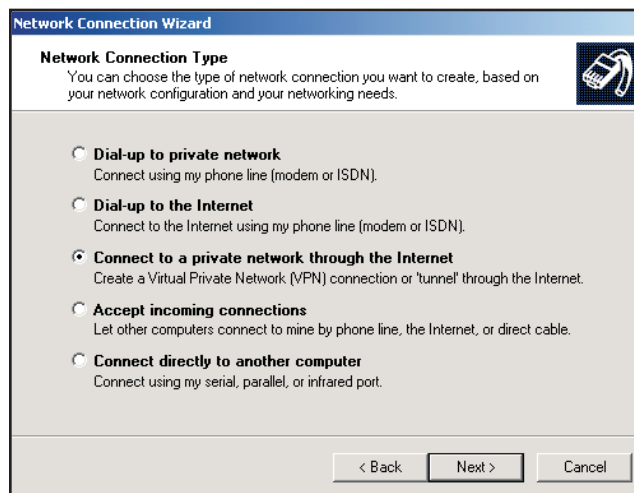

Figure 186 Selecting the Network Connection Type
5. Select *Connect to a Private Network through the Internet* as shown in Figure 186. Click on **Next**.